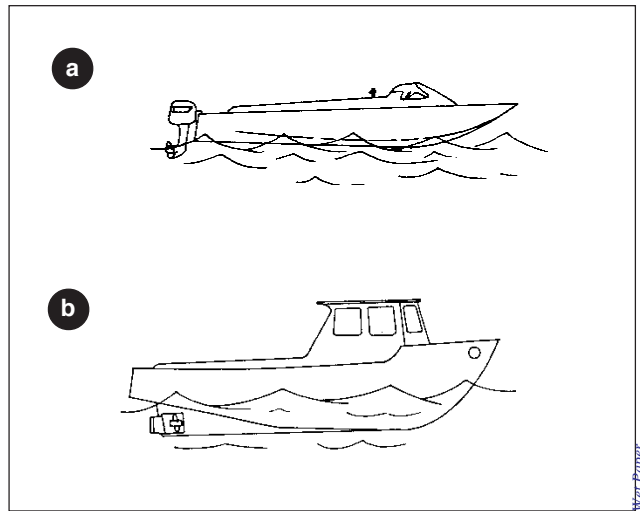

Figure 21.1 Types of boat hull
- Draw diagrams in your notebook to show you know the meaning of the following terms. (Use Figure 21.1 as a guide.)
- Identify the boat hulls shown as in A and B in Figure 21.1